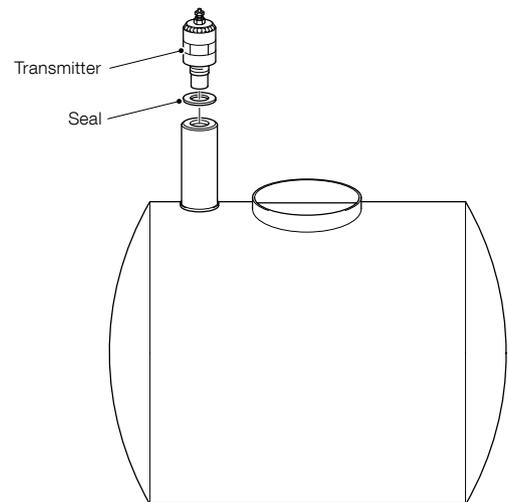

Fig. 2.7: Installing the LST100 transmitter on the mounting bracket using a seal
4. Referring to Fig. 2.7, fit a seal to the LST100 transmitter and screw the transmitter into the bracket by hand. **Note:** Tighten the transmitter hand-tight only – do not use tools. The seal is used to prevent leakage from the environment into the tank.